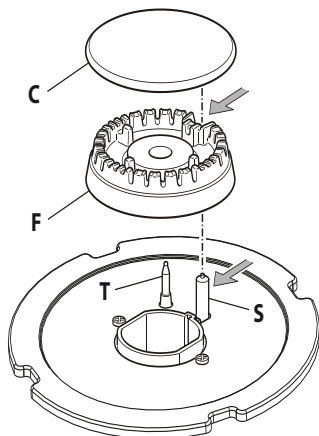

Figure 16a
- Check that the electrode/s “S” (figs. 16a, 16c, 16d, 16e) next to each burner is/are always clean to ensure trouble-free sparking.
- Check that the probe/s “T” (figs. 16a, 16c, 16d, 16e) next to each burner is/are always clean to ensure correct operation of the safety valves.
It is very important to check that the burner flame spreader “F” and the cap “C” have been correctly positioned (see figs. 16a and 16b). Failure to do so can cause serious problems.